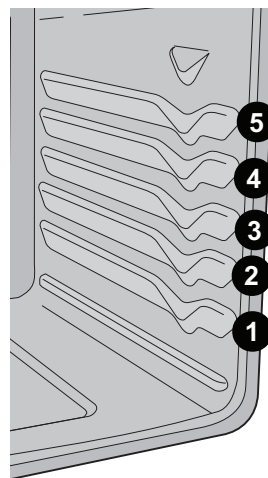

Figure 9: Oven rack positions
- For best results when baking cakes or cookies using two oven racks, place racks in positions 3 and 5 (See Figure 9).